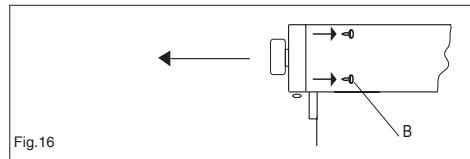

Fig.16
- To disassemble the control panel, unscrew the 4 internal screws (B) fixing the control panel to the oven face (fig 16).